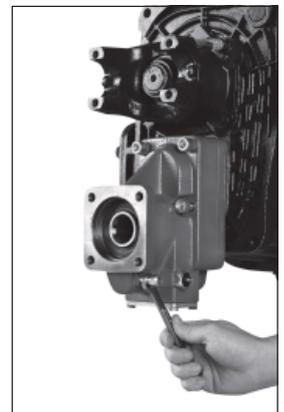

Figure 5
5. Install the male air fitting to the P.T.O. air shift port and plumb air circuit per sketch (See Figure 5)